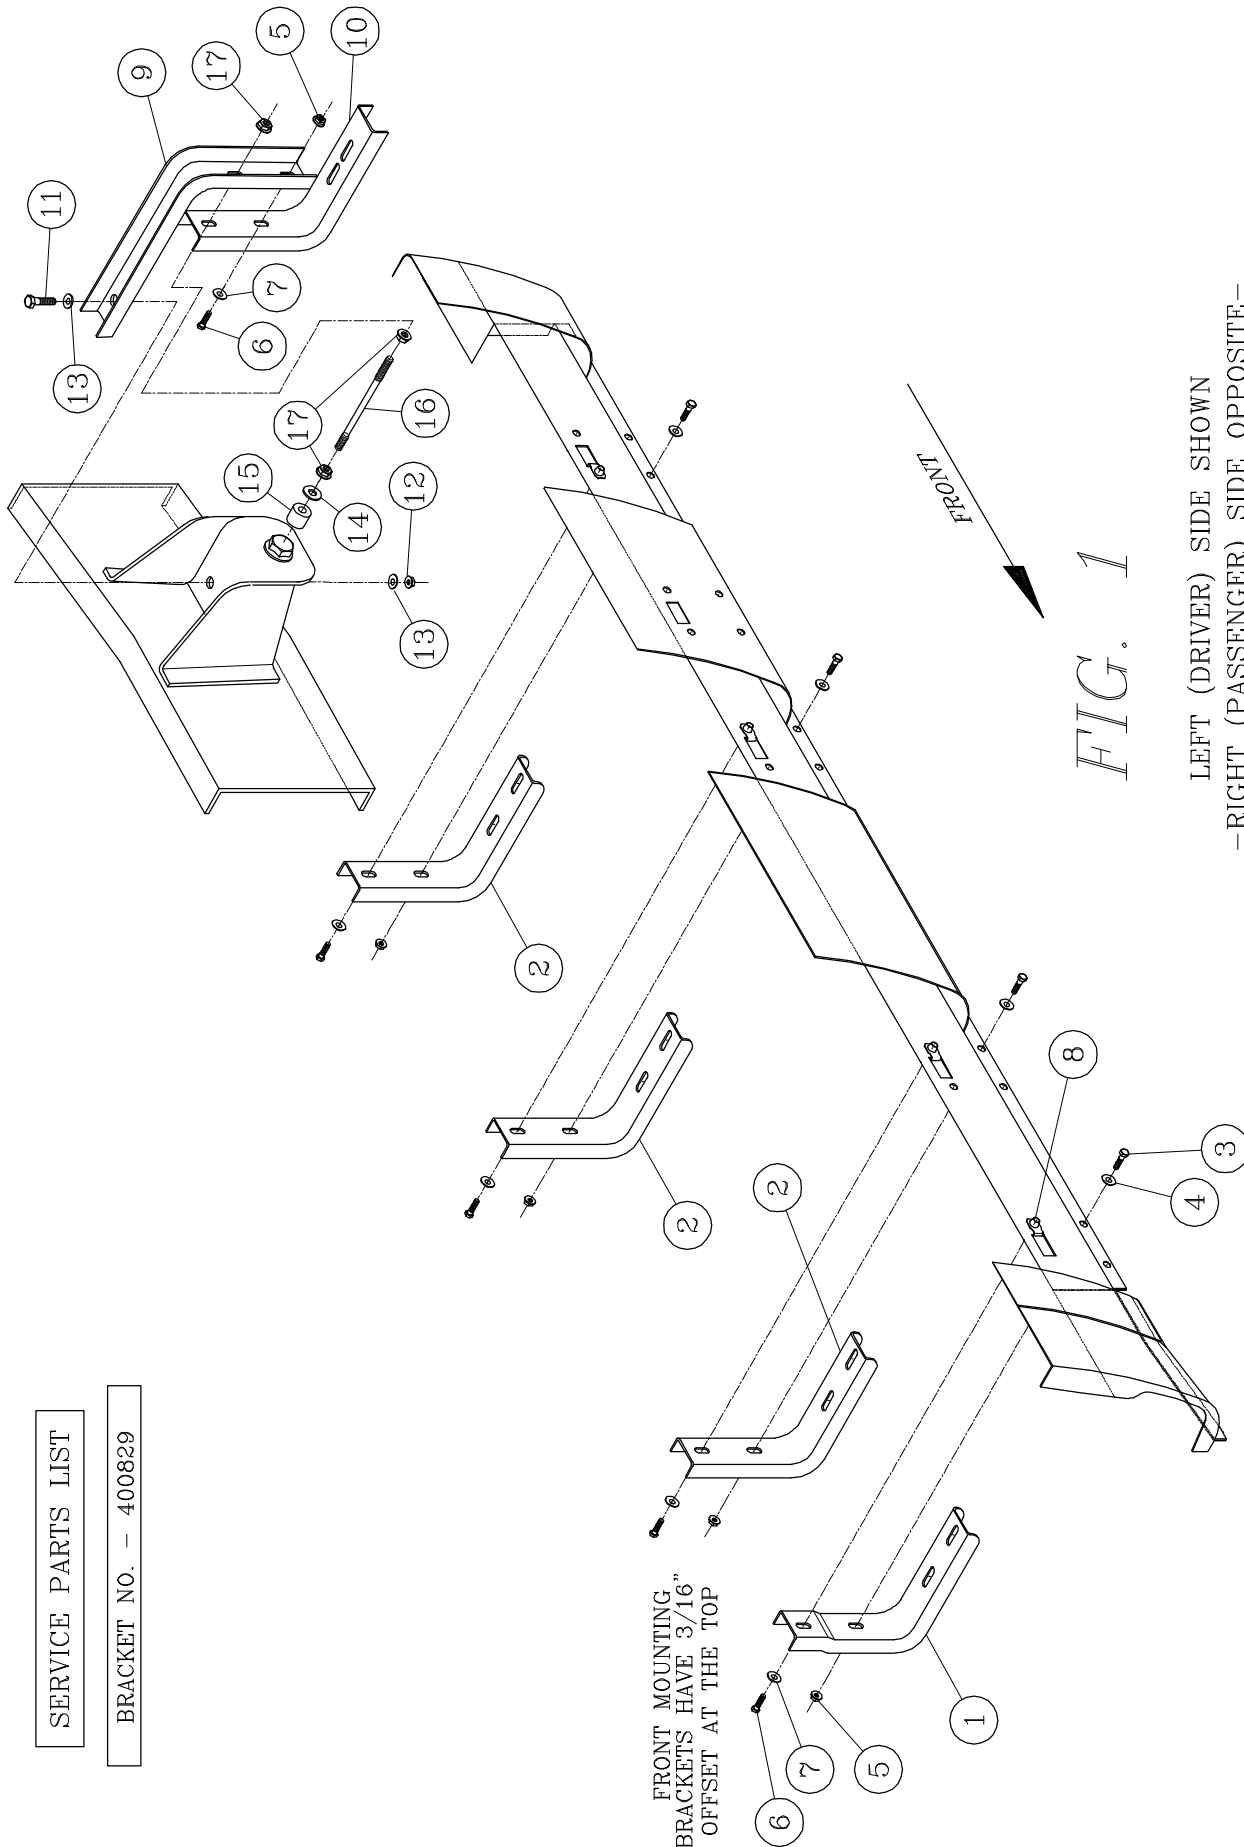

FIG. 1
3. ATTACH THE MOUNTING BRACKETS TO THE VEHICLE AS FOLLOWS: [SEE FIG. 1]